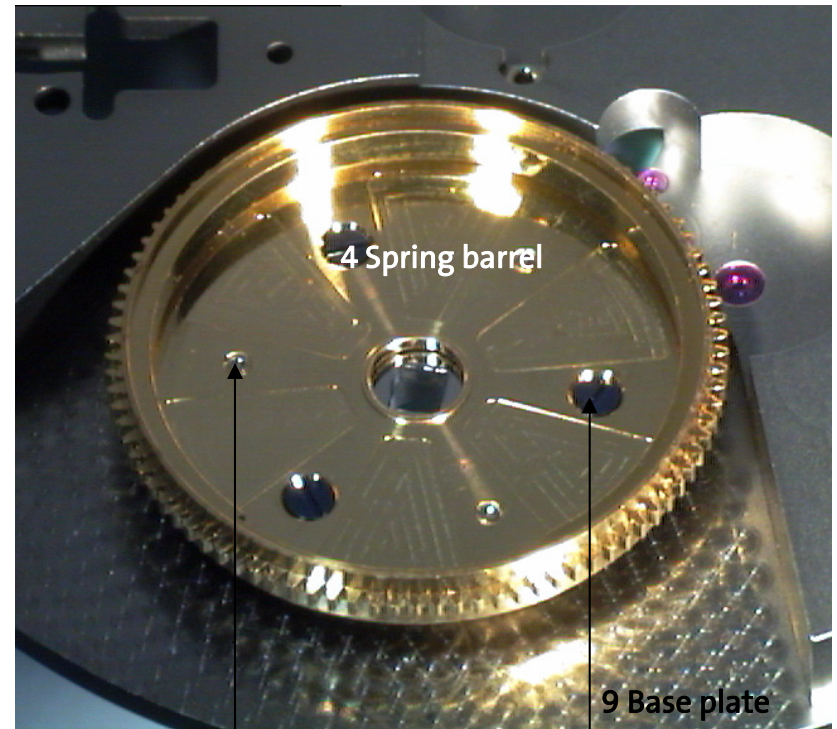

Fig. 5
In Fig. 5, note how the **spring barrel (4)** has been screwed to ring C of the double ball bearing (ABC). The mainspring and arbor (8) can now be placed in the spring barrel (4). The barrel cover is then placed on top.